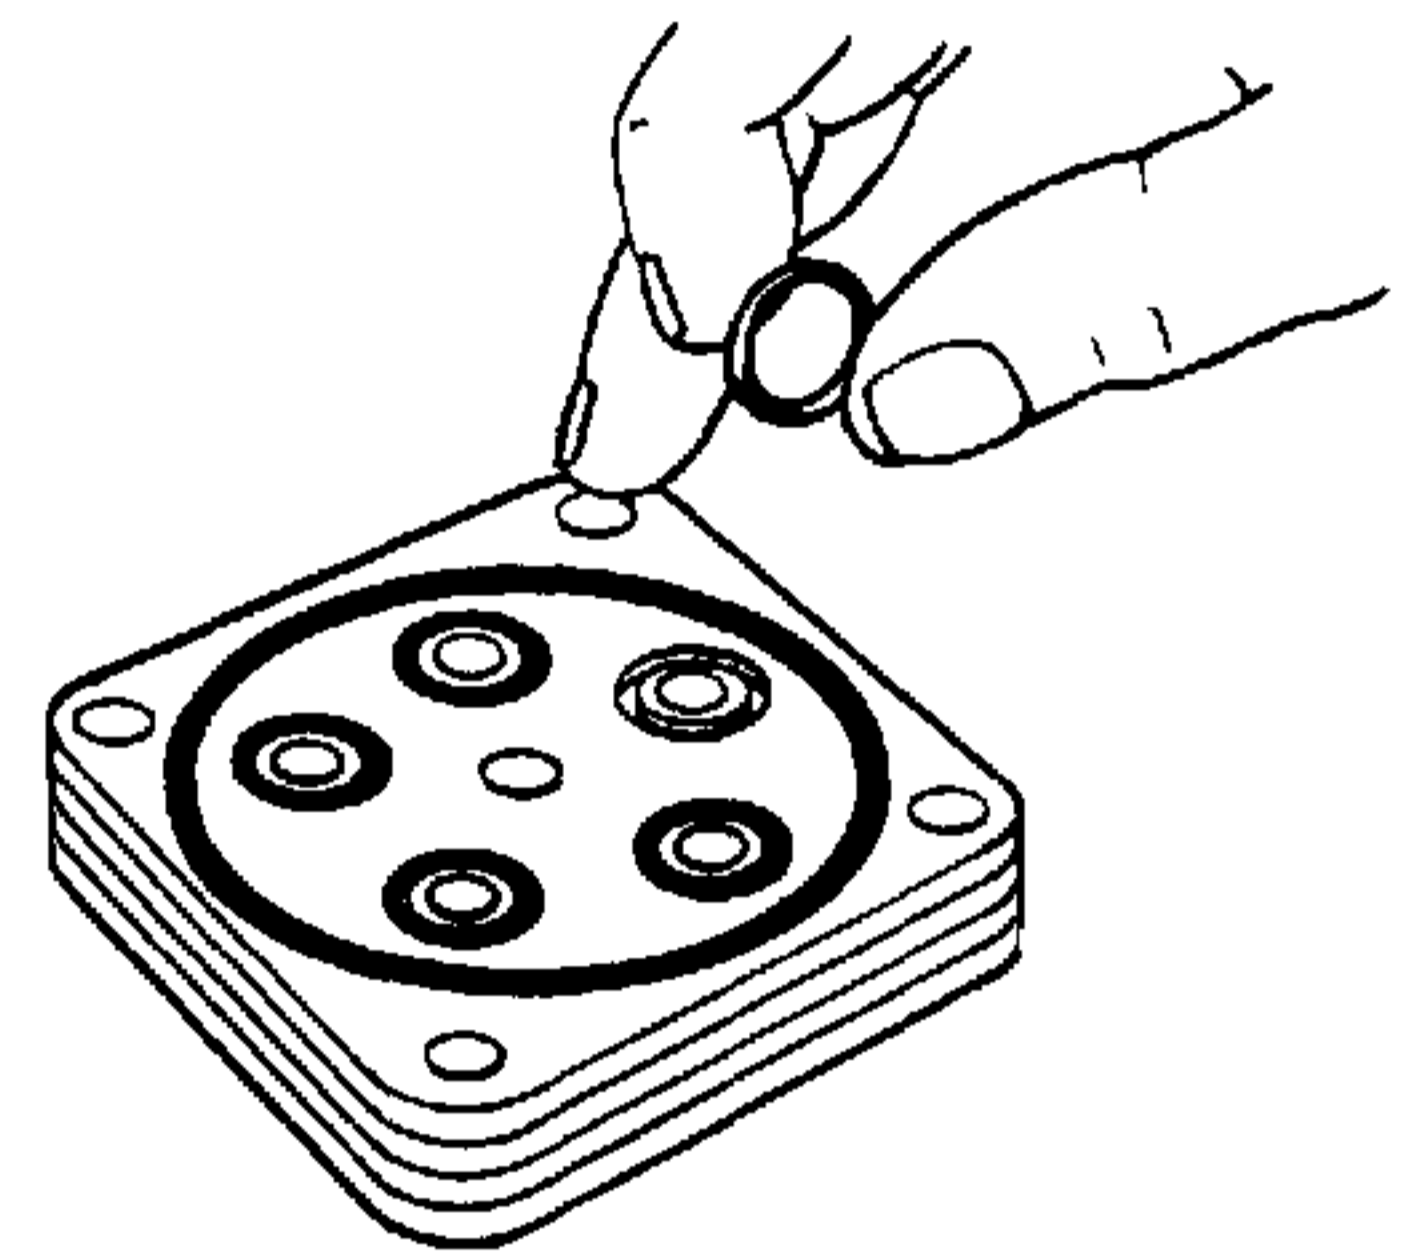

Figure 4-88. Installing O-Ring and Seal Ring in Power Cylinder Cover.
40. Apply clean grease to the four or five O-rings (5, Figure 4-1) as required and seal ring (4). Place the new O-rings (5) and seal ring (4) into their proper location in power cylinder cover (2). See Figure 4-88.